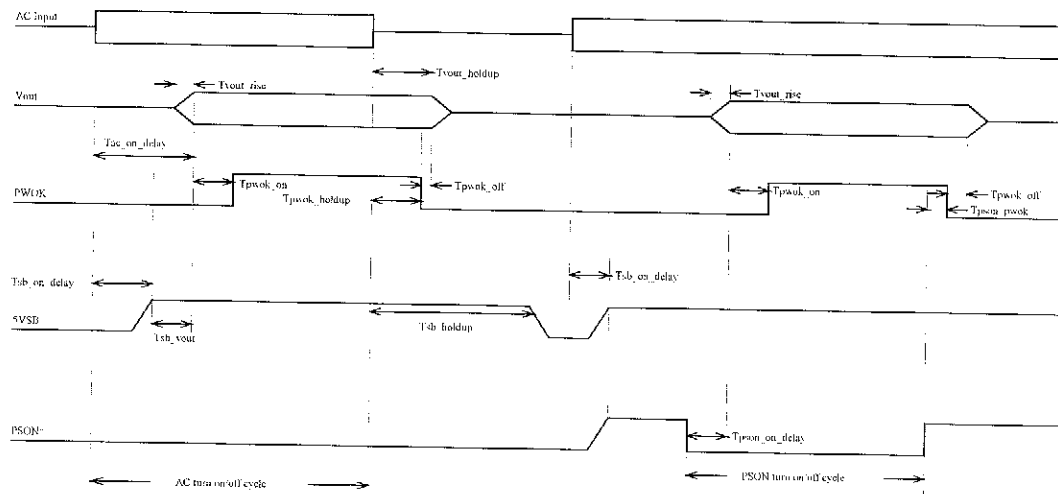

Fig.1
5.1 Power on (see Fig.1)
5.3 Power off sequence (see Fig. 1)
6.1 Power good signal (see Fig. 1)